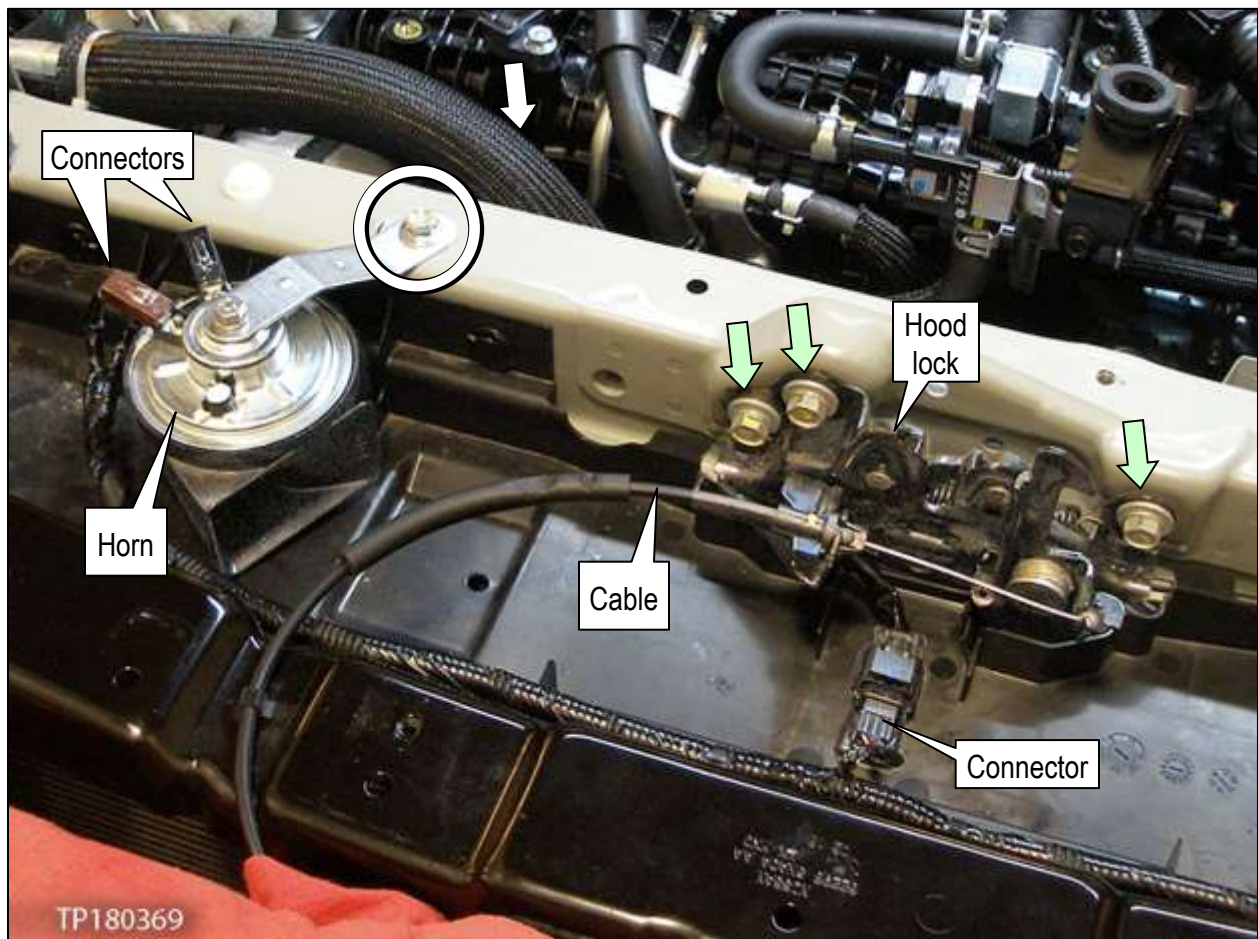

Figure 16
- a. Disconnect the two (2) electrical connectors.
- b. Remove the bolt (see white circle in Figure 16).
- c. Remove the three (3) bolts (see arrows in Figure 16).